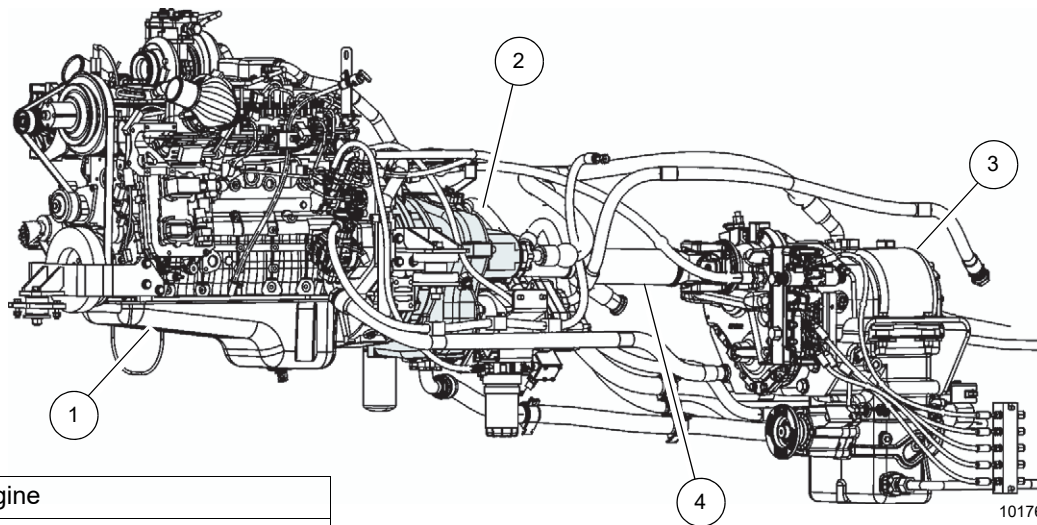

FIGURE 7-1
The engine (1, Figure 7-1) is a Cummins B 6.7L diesel engine. The engine (1) is equipped with a torque converter (2). A drive shaft (4) connects the torque converter (2) and transmission (3). The engine and torque converter are considered one assembly. Four combinations of the engine and torque converters are available:
12. Remove capscrews, locknuts, and disconnect driveshaft (4, Figure 7-1) from the transmission (3) flywheel.
9. Connect the drive shaft (4, Figure 7-1) to the transmission with capscrews and locknuts.